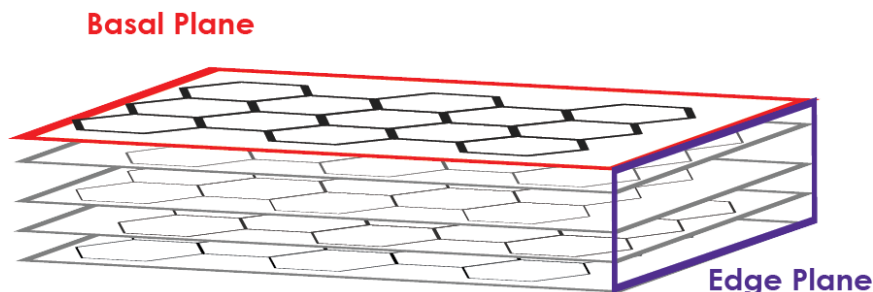

Figure 1. Pyrolytic Graphite Basal and Edge Planes
Pyrolytic graphite (PG) is a highly oriented form of graphite material manufactured through chemical vapor deposition. Chemical vapor deposition is a process by which molecules are grown atom-by-atom; for PG, sp^2 hybridized carbon atoms form covalent bonds with other sp^2 hybridized carbon atoms to make a flat, hexagonal structure called a graphene sheet. Multiple layers of graphene sheets are constructed during the process, and the layers are held together through weak interactions between unhybridized p_z orbitals of adjoining carbon atoms. The PG electrodes from Pine Research Instrumentation are manufactured from large pieces of PG and cleaved either along the basal or edge plane (see Figure 1).